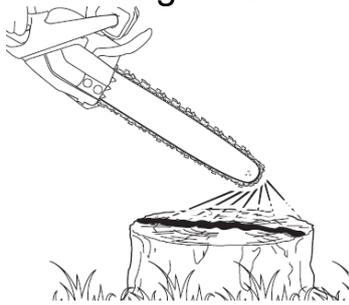

Fig.29
- 1) Start the engine, activate the throttle trigger to check if the chain lubricating oil is delivered as shown in the figure 29.